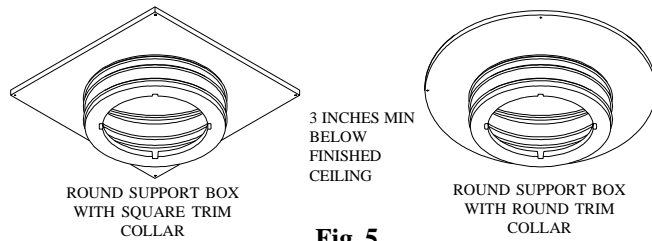
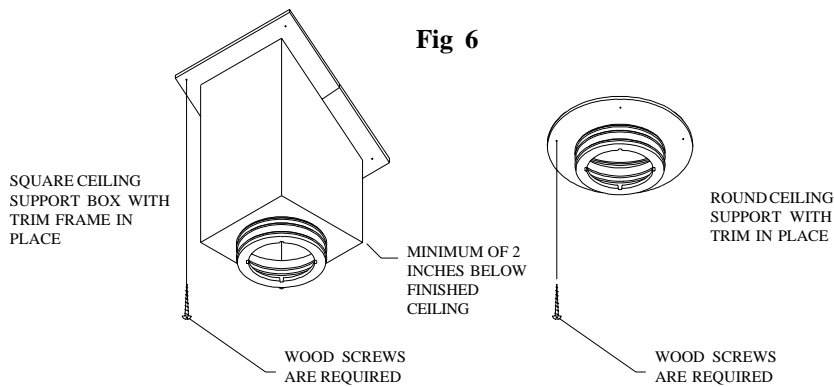
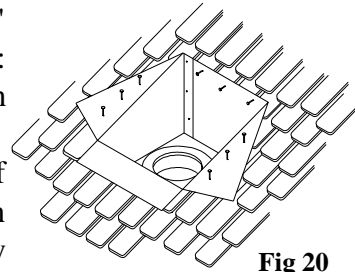

Fig 5
Fig 6
Fig 20
Flat Ceiling Support Box is primarily used for Oil Appliances and comes unpainted. For the Square Ceiling Support Box, refer to the Square ceiling installation below. The Round Ceiling Support Box has the option of a square or round Trim Collar available (Fig 5). The bottom of the Round Support Box must extend at least 3 inches below the finished ceiling. Level the Support Box and secure it to the framing using at least three 8-penny nails per side (min. of 12 total). Alternatively, you may use 1-1/2" #8 wood screws (min. of 12 total), instead of nails. Next, secure the Trim Collar (round or square) to the framing members using the (4) 1" long, round-head wood screws provided (Fig 6).
For installation into a cathedral ceiling, you must use the Square Ceiling Support Box and the two-piece Trim. The bottom of the square portion of the Support Box must be a minimum of 2-inches lower (round portion is an additional 3 inches lower) than the finished ceiling at the lowest side of the penetration (Fig 5 & 6). Level the
using the (6) 1-1/4" long, round head wood screws provided (see Fig 6).
3. Install Support Box: Slip the Square Support Box into the framed opening so the square portion projects at least 2 inches below the finished ceiling and rafters (bottom of round portion is 5" below), and extends above the ceiling to framing or decking materials that it can be nailed to. Level the Support Box, and slit the corners to the roofline where they extend beyond it. Bend the flaps (created by the slitting) flush with the roof, and nail the Support Box to the roof or framing with at least three (3) 8-penny nails, or (3) 1-1/2", #8 screws, per side (Fig 20). Be sure to keep the Support Box level. Screw the trim sections into the ceiling (Fig 6).